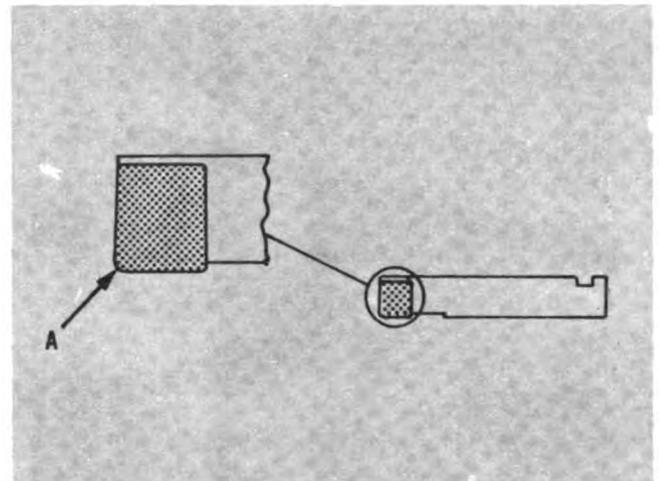

Fig. 1-12 (N20148). Counterbore Tool Bit Radius.
- a. The tool must have a radius of 0.008 to 0.012 Inch [0.20 to 0.30 mm] as shown in Fig. 1-12.